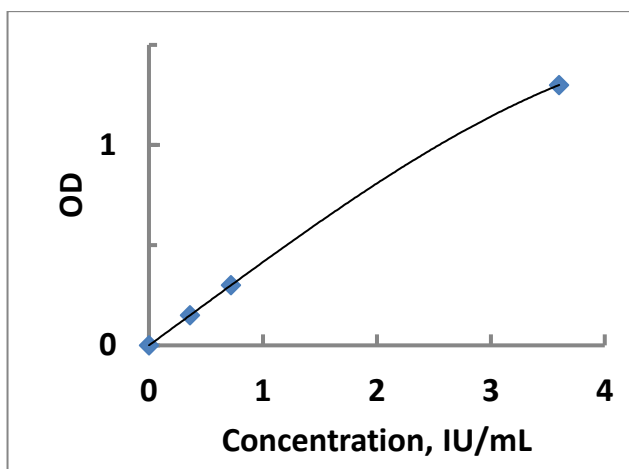
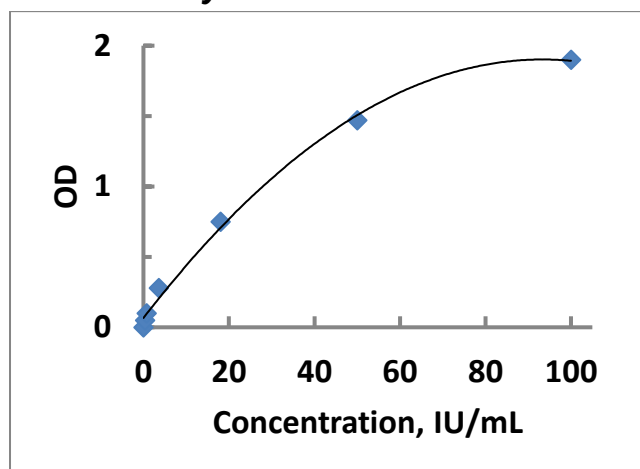

Figure 2A. Typical example of standard curve at 450 nm
Figure 2B. Typical example of standard curve at 405 nm
Plot two standard curve OD/concentration specific IgE in the calibrators (IU/mL). To plot the standard curve #1 (see Figure 2A), use the measurements results of calibrators 0...3 at a wavelength of 450 nm; to plot the standard curve #2 (see Figure 2B), use the measurements results of calibrators 0...6 at a wavelength of 405 nm.
- Use standard curve #1 (see Figure 2A) if sample OD (at 450 nm) is less Or equal to the Cal 3;
- Use standard curve #2 (see Figure 2B) if sample OD (at 450 nm) is more than Cal 3.